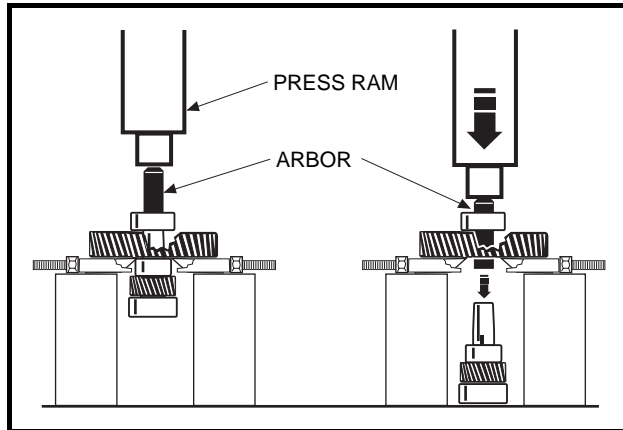

Figure 17a-13 Intermediate Gear Assembly
7. Press the bearing (18) off the intermediate gear assembly (**Figure 17a-5, Page 17a-3**).